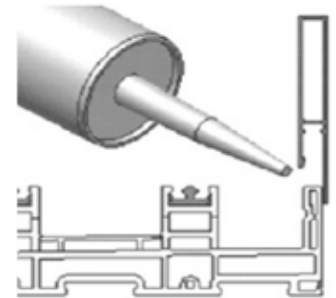
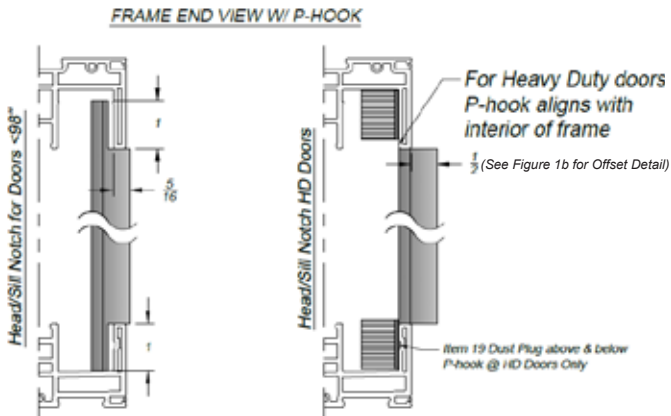
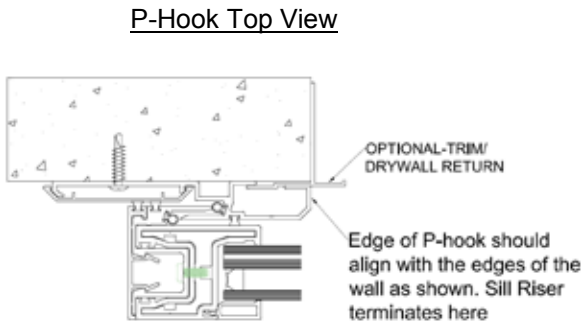

Figure 16
Figure 18a
Figure 18b
- 1. Locate** the frame sill (Item 1) and the sill track inserts (Item 3; Figure 16). Set the assembly on a flat, supported surface and install track inserts by sliding them in through the ends of the frame sill.
7. By-pass doors, skip to Step 9; Pocket Doors Only: Seal under entire length of P-hook (Item 16) and position it on the wall at the pocket opening aligning the notches with the frame head and sill (Figure 18a). The edge of the P-hook should align with the edge of the wall (Figure 18b).
8. The sill riser will require trimming in order to butt up against the P-hook (Figure 18b). Line the sill riser up with the frame sill and apply a small bead of sealant to the top of the sill (Figure 16). Secure the sill riser into place with a rubber mallet, ensuring it snaps into place.